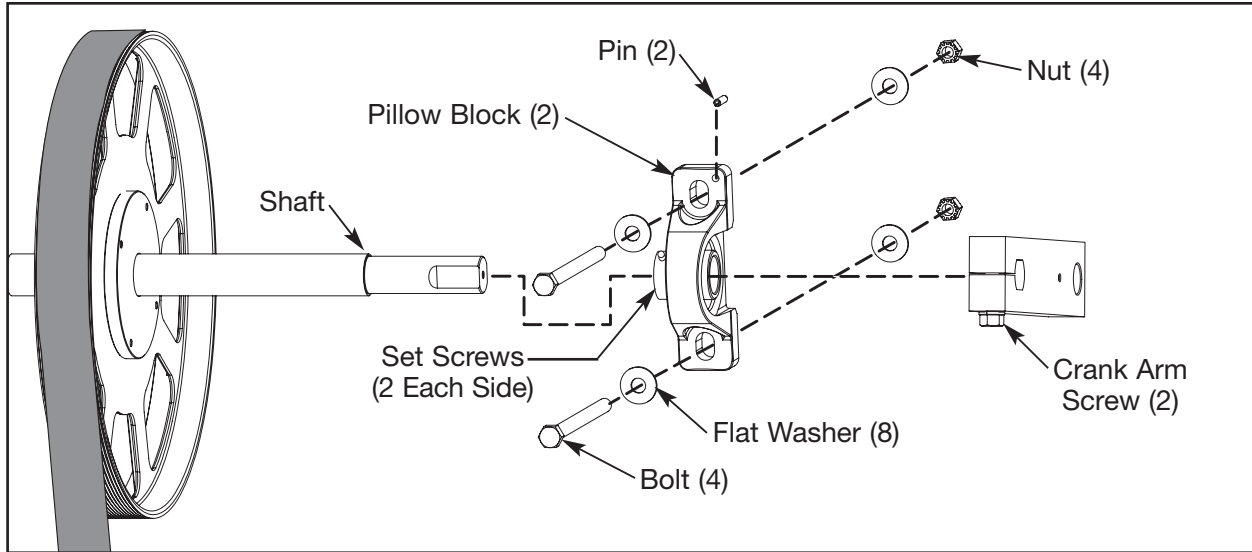

Figure 21
- A. Using a 7/16" socket wrench, loosen but do not remove the one screw on each crank arm. See Figure 21.
- A. Using a 1/8" hex key, loosen but do not remove the two set screws on the each pillow block. See Figure 21.
- B. Pull each pillow block off the shaft. See Figure 21.
- A. Slide a pillow block on each end of the shaft. See Figure 21. **NOTE:** *Orientation of pillow block sleeve and set screws must go toward the inside. Do not tighten the set screws until step 13F.*